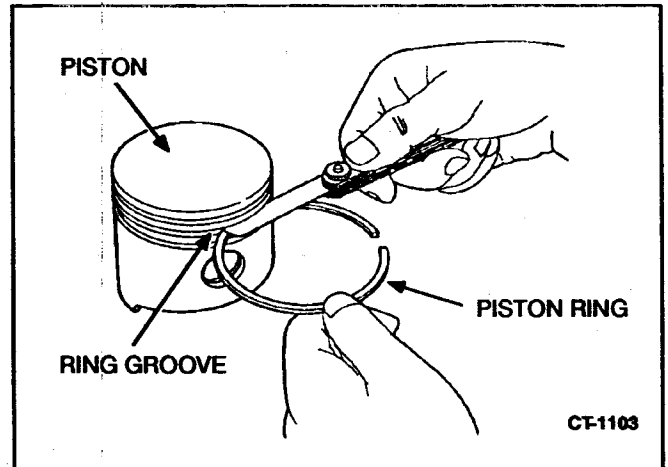

FIGURE 11-23. MEASURING RING GROOVE CLEARANCE
1. Inspect the piston for fractures at the ring lands, skirts and pin bosses. Check for wear at the ring lands using a new ring and feeler gauge (Figure 11-23). Replace the piston when the side clearance of the top compression ring reaches that specified in *Dimensions and Clearances*.
Refer to Figure 11-23. Remove carbon from the ring grooves. Insert a new piston ring into the ring groove and measure the clearance at several points. If the measurements are not as specified in *Dimensions and Clearances*, replace the piston.